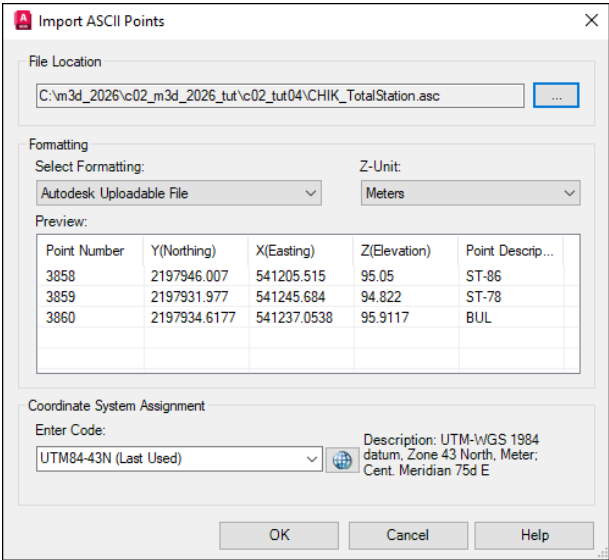

Figure 2-37 The **Import ASCII Points** dialog box displaying the preview of the selected data
5. Next, choose the **OK** button; the **Import ASCII File** dialog box is closed. Notice that the path of the selected file is displayed in the **File Location** edit box of the **Import ASCII Points** dialog box. Also, preview of the selected data is displayed in the **Preview** area, as shown in Figure 2-37.